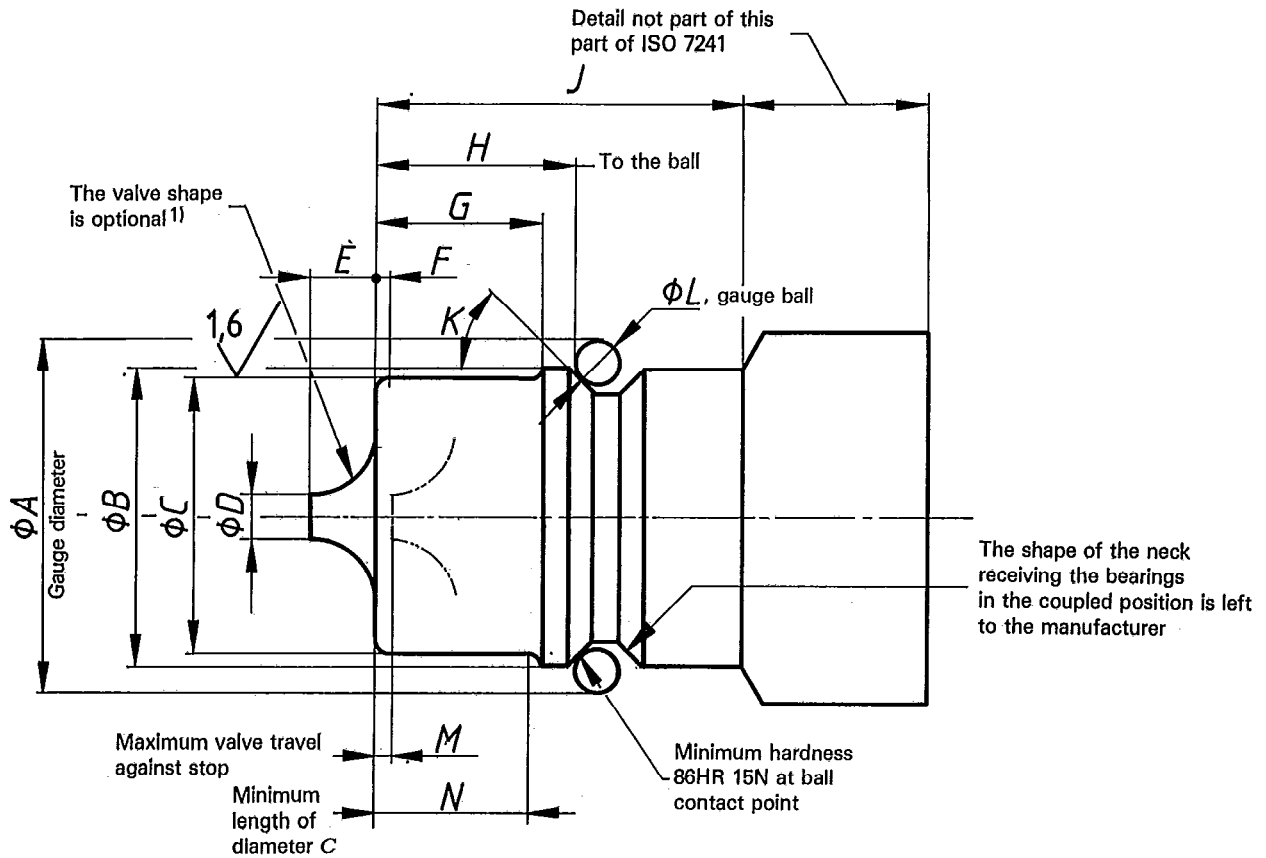

Figure 1 – Dimensional requirements, series "A"
4.1 Series "A" dimensional requirements are shown in figure 1 and given in table 1.